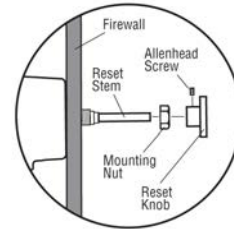

Figure 2
2. If installing the RP75 to an engine compartment firewall, drill a 3/16 in. (15 mm) diameter hole in the firewall (see **Figure 2**).